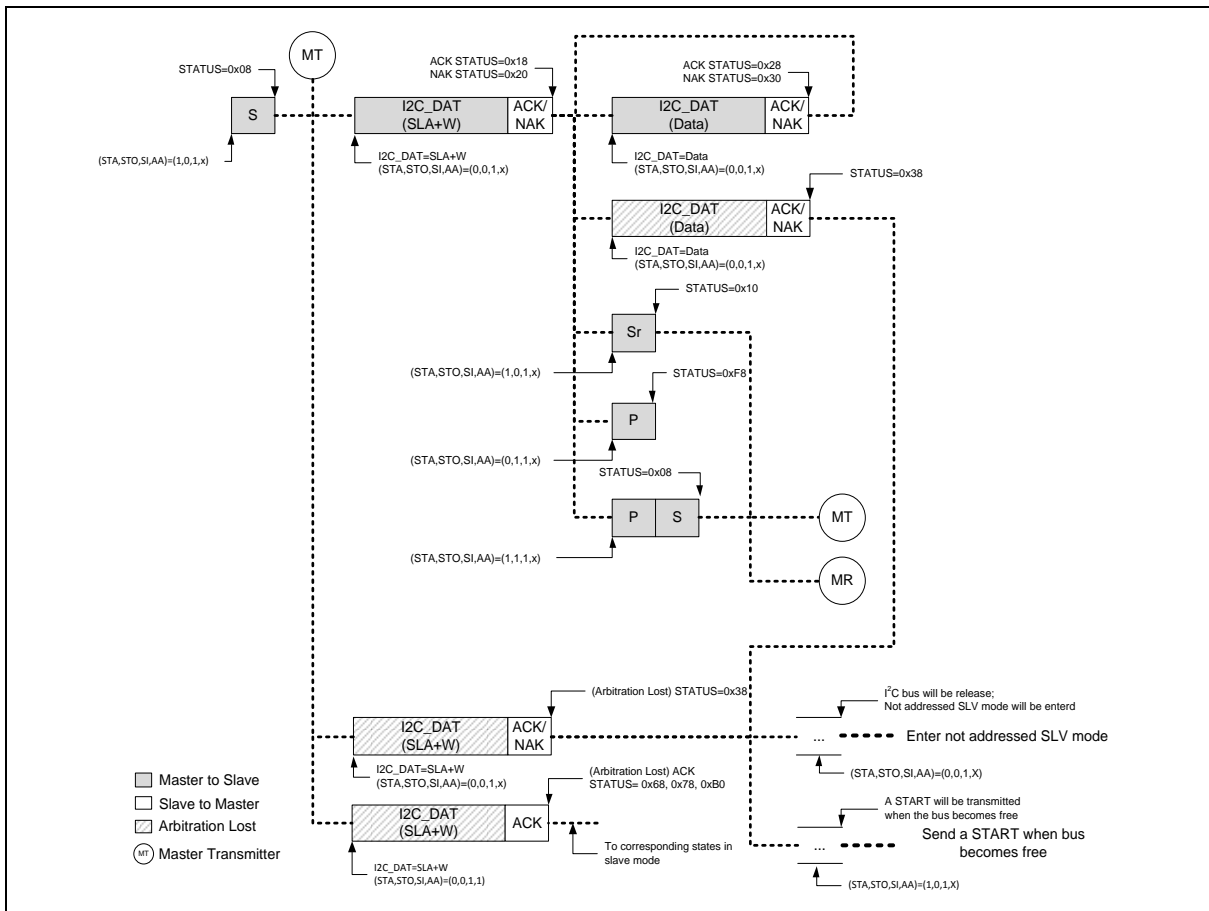
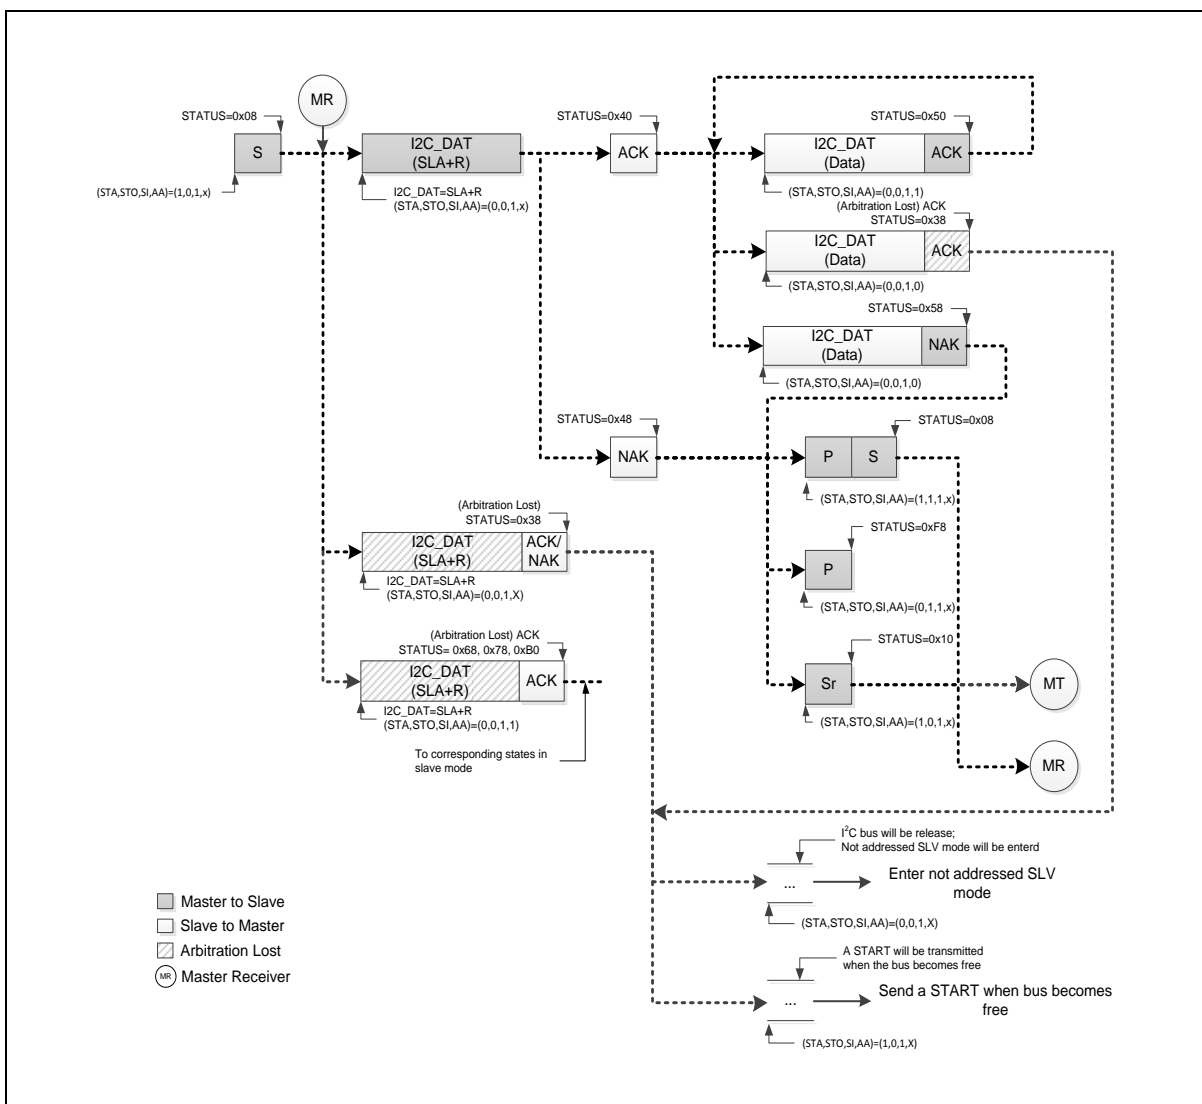

Figure 6.11-10 Master Transmitter Mode Control Flow
Figure 6.11-11 Master Receiver Mode Control Flow
In Figure 6.11-10, all possible protocols for I2C master are shown. User needs to follow proper path of the flow to implement required I2C protocol.
In other words, user can send a START signal to bus and I2C will be in Master Transmitter (MT) mode (Figure 6.11-10) or Master receiver (MR) mode (Figure 6.11-11) after START signal has been sent successfully and new status code would be 0x08. Followed by START signal, user can send slave address, read/write bit, data and Repeat START, STOP to perform I2C protocol.